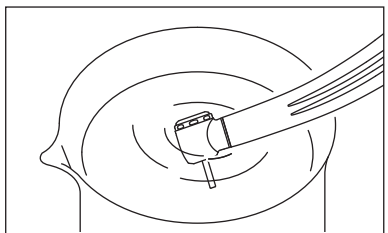

Fig. 9
- 3) Rotate the handpiece and immerse half of the handpiece head in the cup of water (Fig. 9).